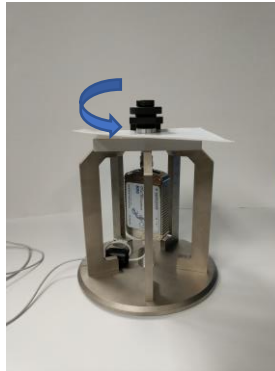
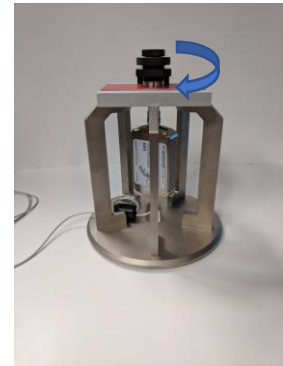

Figure 13. Raise Electrode
Figure 14. Lower Electrode
3. Turn the top knob counter-clockwise to raise the top electrode. (Figure 13). Place the measurement specimen between the two electrodes and turn the top knob clockwise to lower the top electrode until it is snug. (Figure 14). Then use the